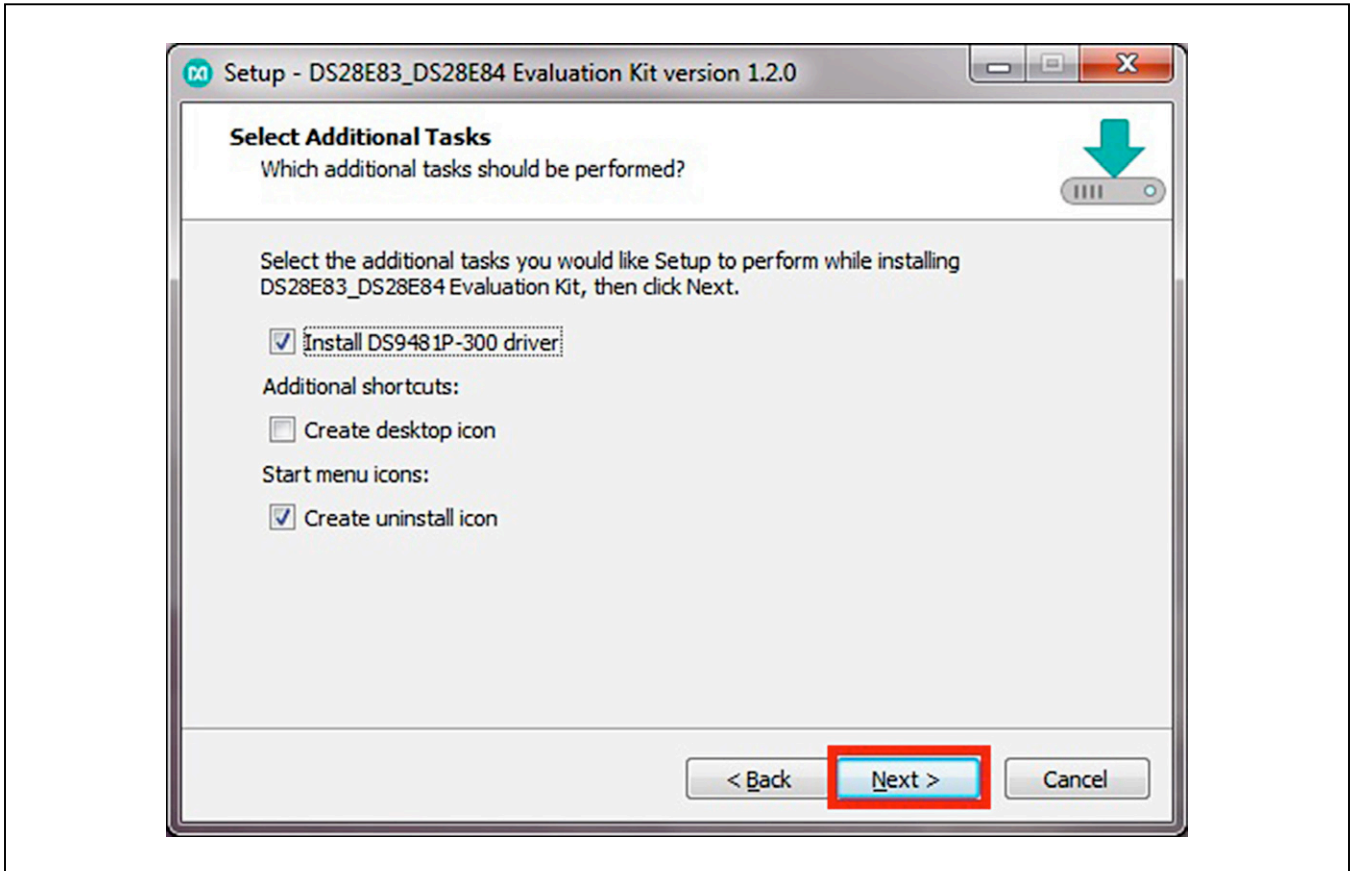

Figure 4. Select to Install the Driver
- 6) Unplug any Maxim adapter and click on **Next**, with the default settings checked. This selects and installs the DS9481P-300# driver, which is needed to communicate through the USB using a virtual COM port (Figure 4).